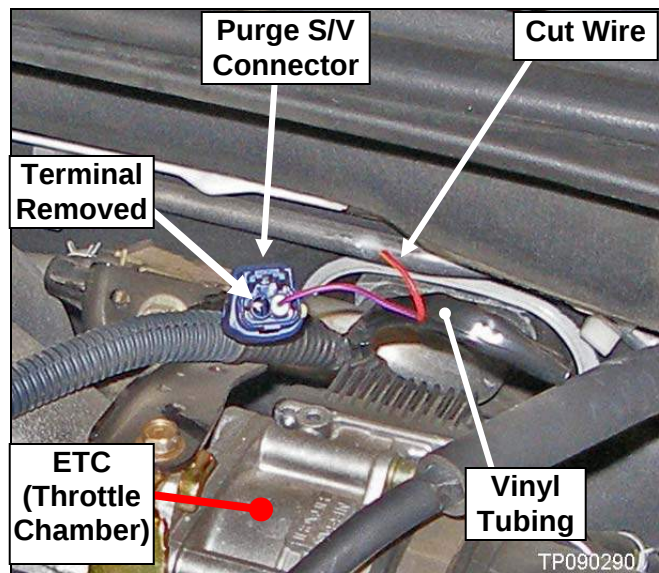

Figure 1
- a. Carefully cut 1-2 inches (25-50 mm) down the side of the vinyl tubing, starting at the connector end (see Figure 1).
- b. Remove the red with yellow stripe (R/Y) wire's terminal from the connector (see Figure 1).
- c. Cut off the wire with terminal about 0.5 inches (12 mm) below the end of the vinyl tubing (see Figure 1).